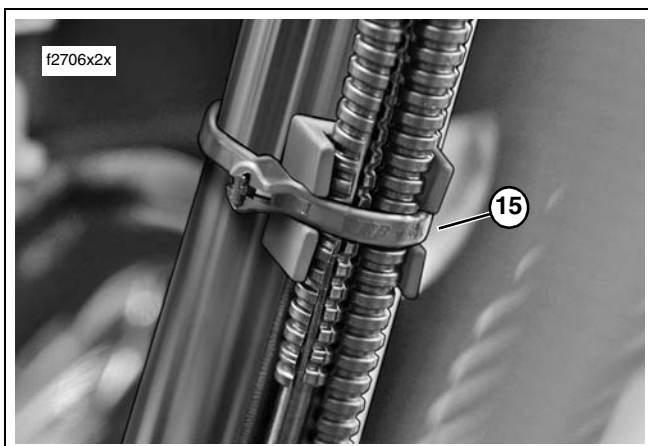

Figure 14. Install Upper Cable Strap at Front Frame Downtube
26. See item 15 of Figure 14. Position front brake lines in rubber spacer held at front of front frame downtube about 5.5 in. (139.7 mm) above top of crossbrace, and install **new** cable strap. Properly oriented, brake line to front calipers runs from top fitting at manifold through **OUTBOARD** side of rubber spacer, while line from front